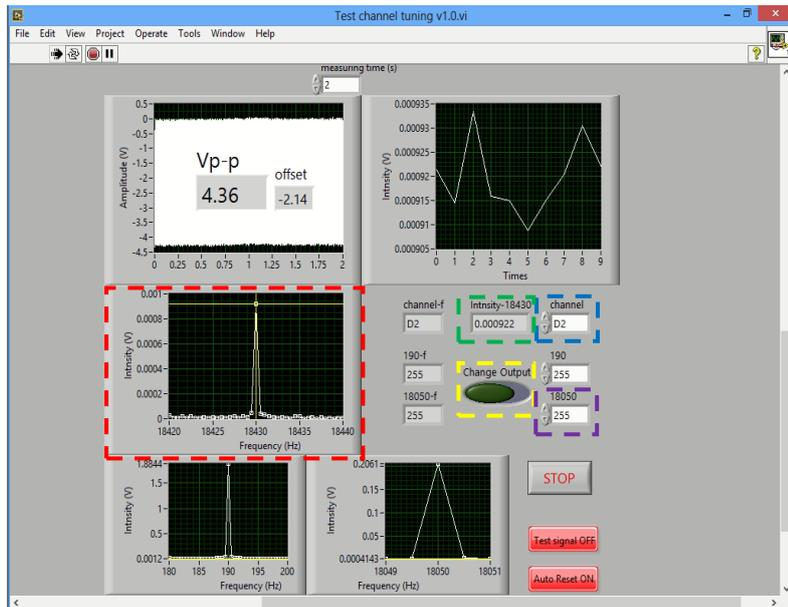

Figure 5.2
- 1) Select the channel (blue dotted box in Figure 5.2).
- 2) Adjust the output intensity to 18050 Hz (purple dotted box in Figure 11a) then click “Change Output” button (yellow dotted box) to right to change the setting. Make the value in the “peak-18430” (green dotted box; also, the Intensity in red box in Figure 5.2) of each channel be around at 0.0009~0.0011.